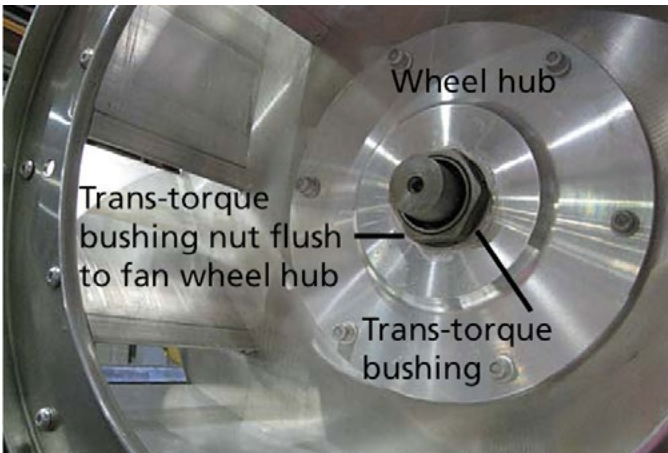

Figure 19: Mark location and remove trans-torque bushing and fan wheel from motor.
6. Mark the location of the trans-torque bushing on the shaft and the fan. To remove the fan wheel from the motor shaft, remove the trans-torque bushing retaining hex nut using a 1" socket with a 12" extension by turning counter clockwise. Loosen progressively until the bushing is free from wheel hub and motor shaft. Remove fan wheel/hub assembly (see Figure 19).